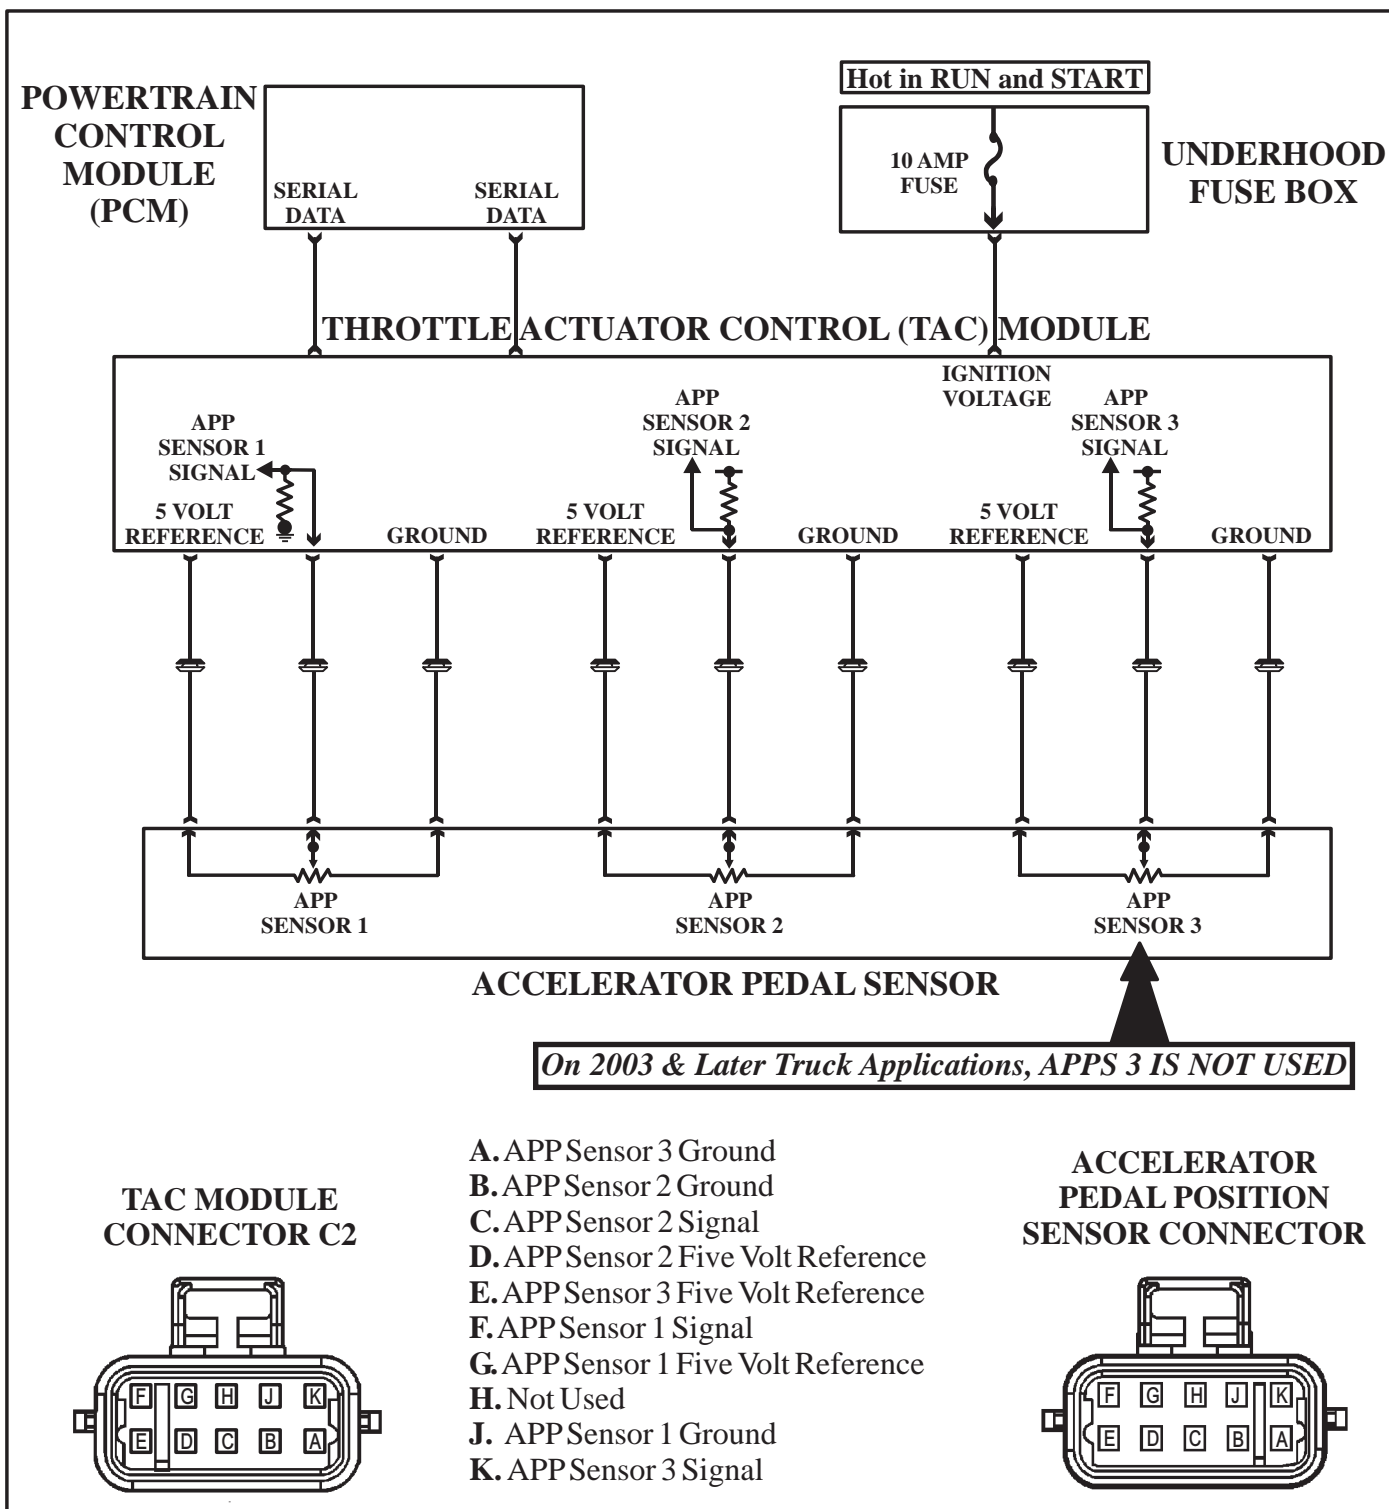

Figure 76
- Check the Accelerator Pedal Position Sensor 1 Signal voltage (Refer to Figure 76) with a DVOM and compare it to the corresponding parameter on the scan tool. Refer to the chart in Figure 75 for the correct value.
- If APP Sensor 1 is not ranging correctly, check the sensor 5 volt reference voltage and ground circuits, (Refer to Figure 76), if these check good replace the APP Sensor.
- Check the Accelerator Pedal Position Sensor 2 Signal voltage (Refer to Figure 76) with a DVOM and compare it to the corresponding parameter on the scan tool. Refer to the chart in Figure 75 for the correct value.
- It is the TAC Module that provides the 5 volt reference voltage and ground, (See Figure 76).
- Check the Accelerator Pedal Position Sensor 3 Signal voltage (Refer to Figure 76) with a DVOM and compare it to the corresponding parameter on the scan tool. Refer to the chart in Figure 75 for the correct value.
- It is the TAC Module that provides the 5 volt reference and ground, (Refer to Figure 76).
- If the signal voltage is incorrect, check the APP Sensor 3 five volt reference and ground circuits, (Refer to Figure 76).
- Check the Accelerator Pedal Position Sensor 1 Signal voltage, Refer to Figure 76, with a DVOM and compare it with the corresponding parameter on the scan tool. Refer to the chart in Figure 75 for the correct value.
- If the signal voltage is incorrect, check the APP Sensor 1 five volt reference and ground circuits, (Refer to Figure 76).